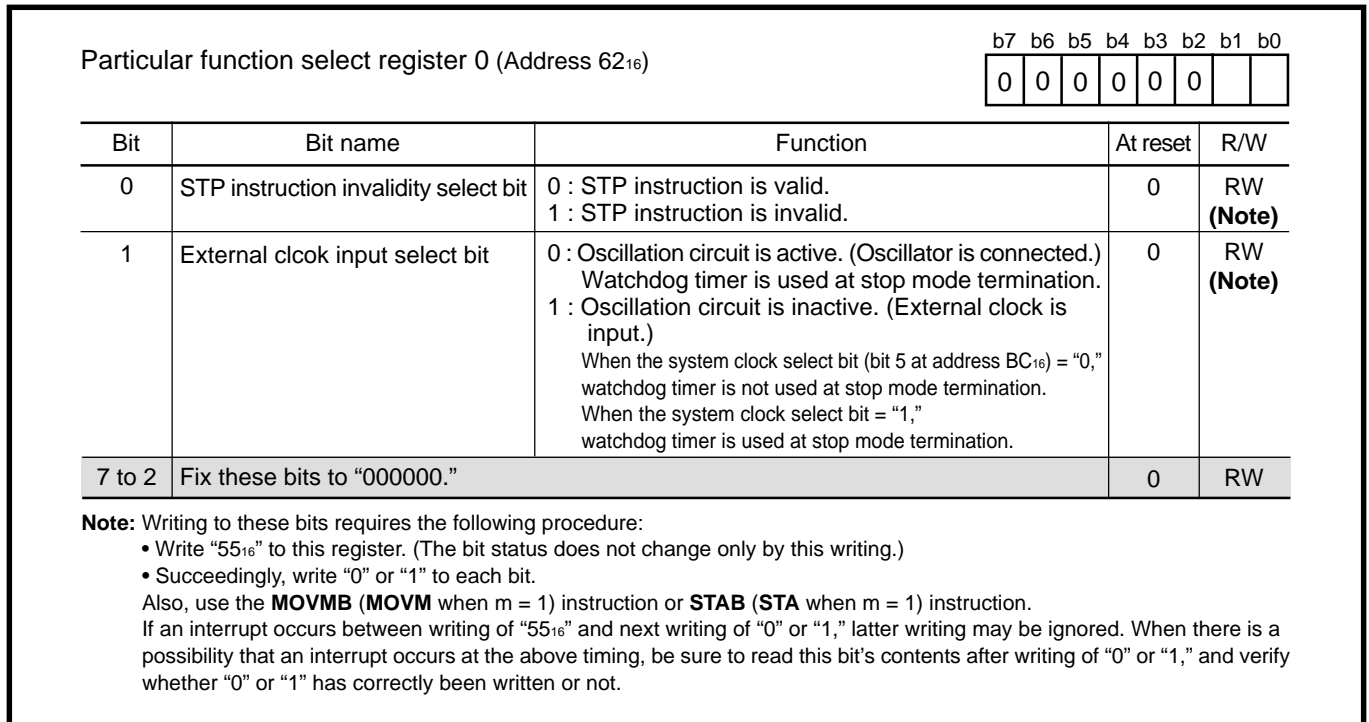
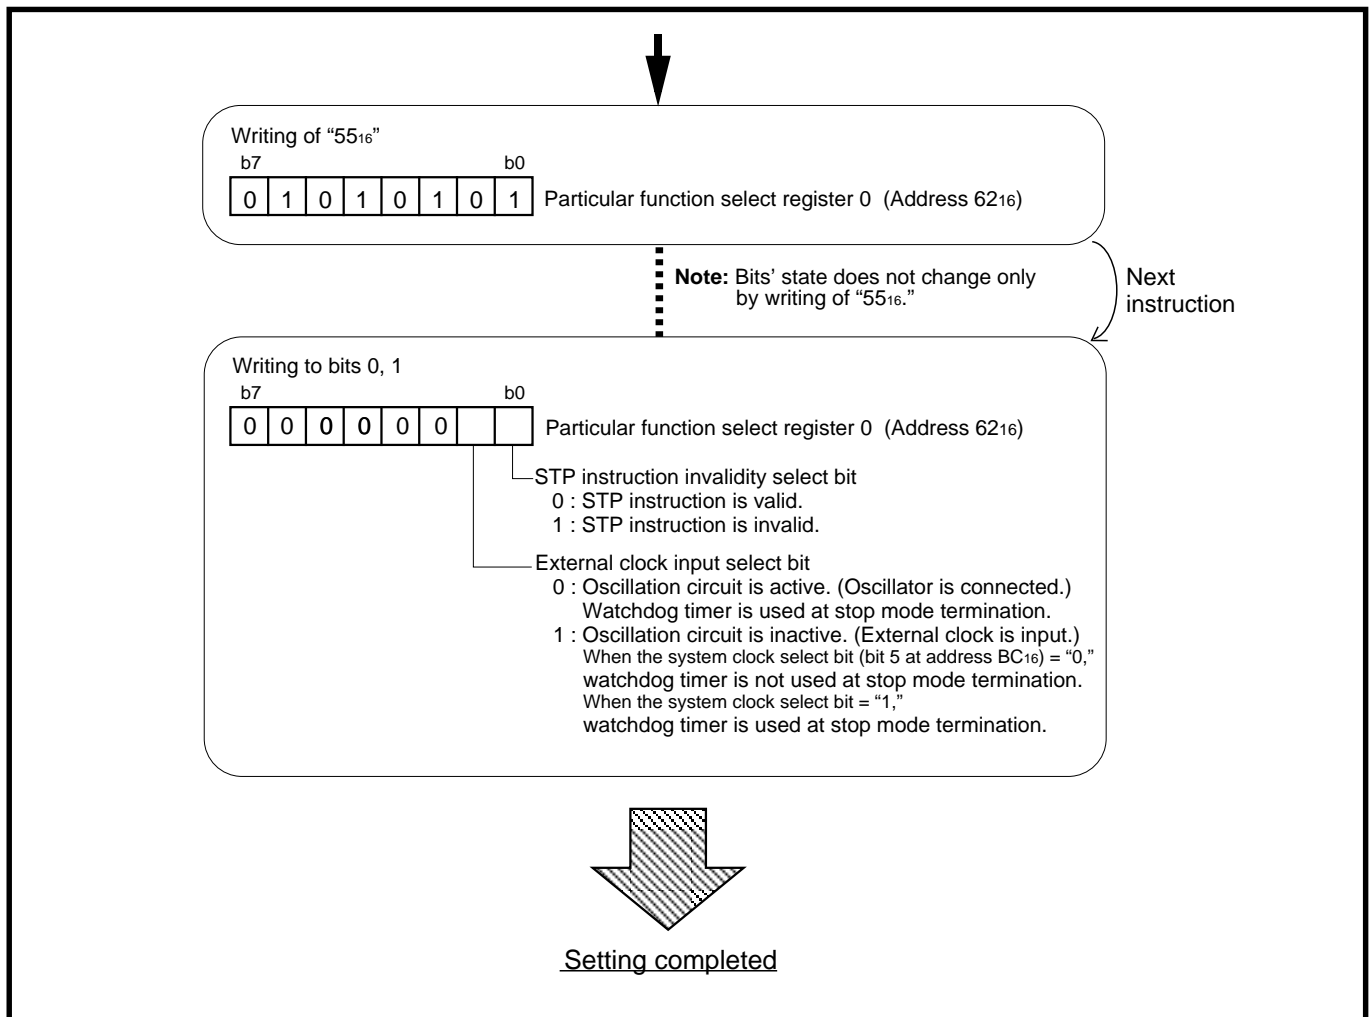

Fig. 15.2.2 Structure of particular function select register 0
Fig. 15.2.3 Writing procedure for particular function select register 0
Figure 15.2.2 shows the structure of the particular function select register 0, and Figure 15.2.3 shows the writing procedure for the particular function select register 0.
- Succeedingly, write "0" or "1" to this bit. (See Figure 15.2.3.)
To rewrite this bit, write "0" or "1" just after writing of "55₁₆" to address 62₁₆. (See Figure 15.2.3.)